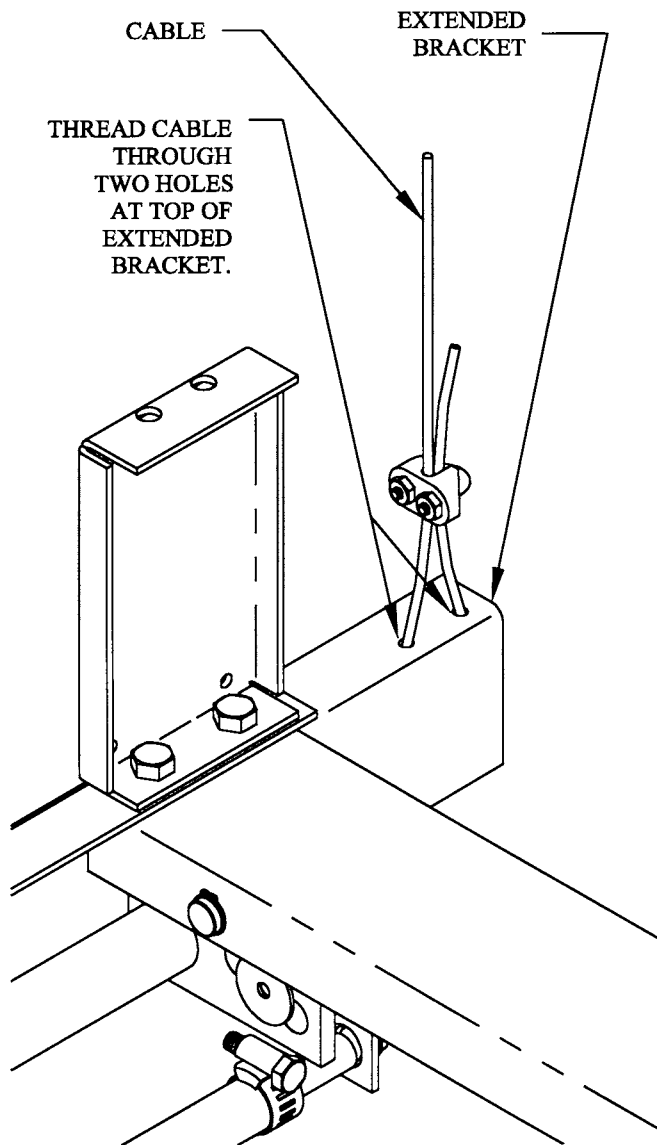

FIG. 5
STEP 5. (This step for scales using low profile hopper – others skip to step 6) The scale is suspended from the two extended brackets. Thread the cable in and out through the two holes found at the top of the brackets. See Fig. 5. Be sure the scale is installed level.